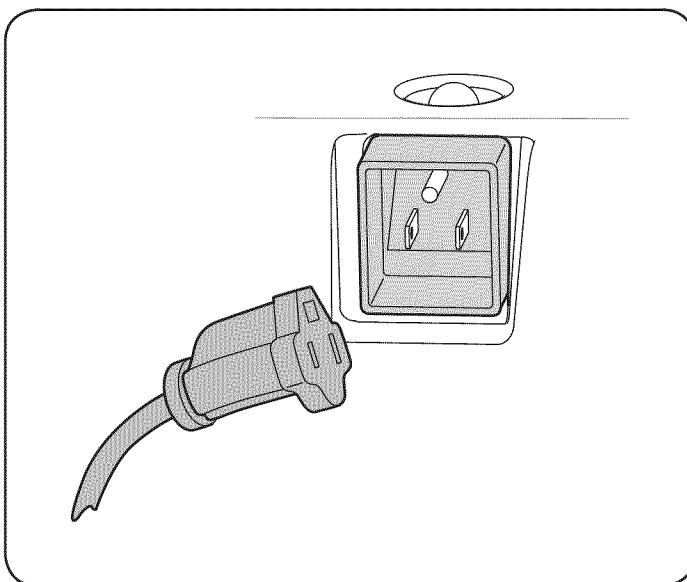

Figure 14
1. Plug the extension cord into the outlet located on the engine's surface. Plug the other end of extension cord into a three-prong 120-volt, grounded, AC outlet in a well-ventilated area. See Figure 14.